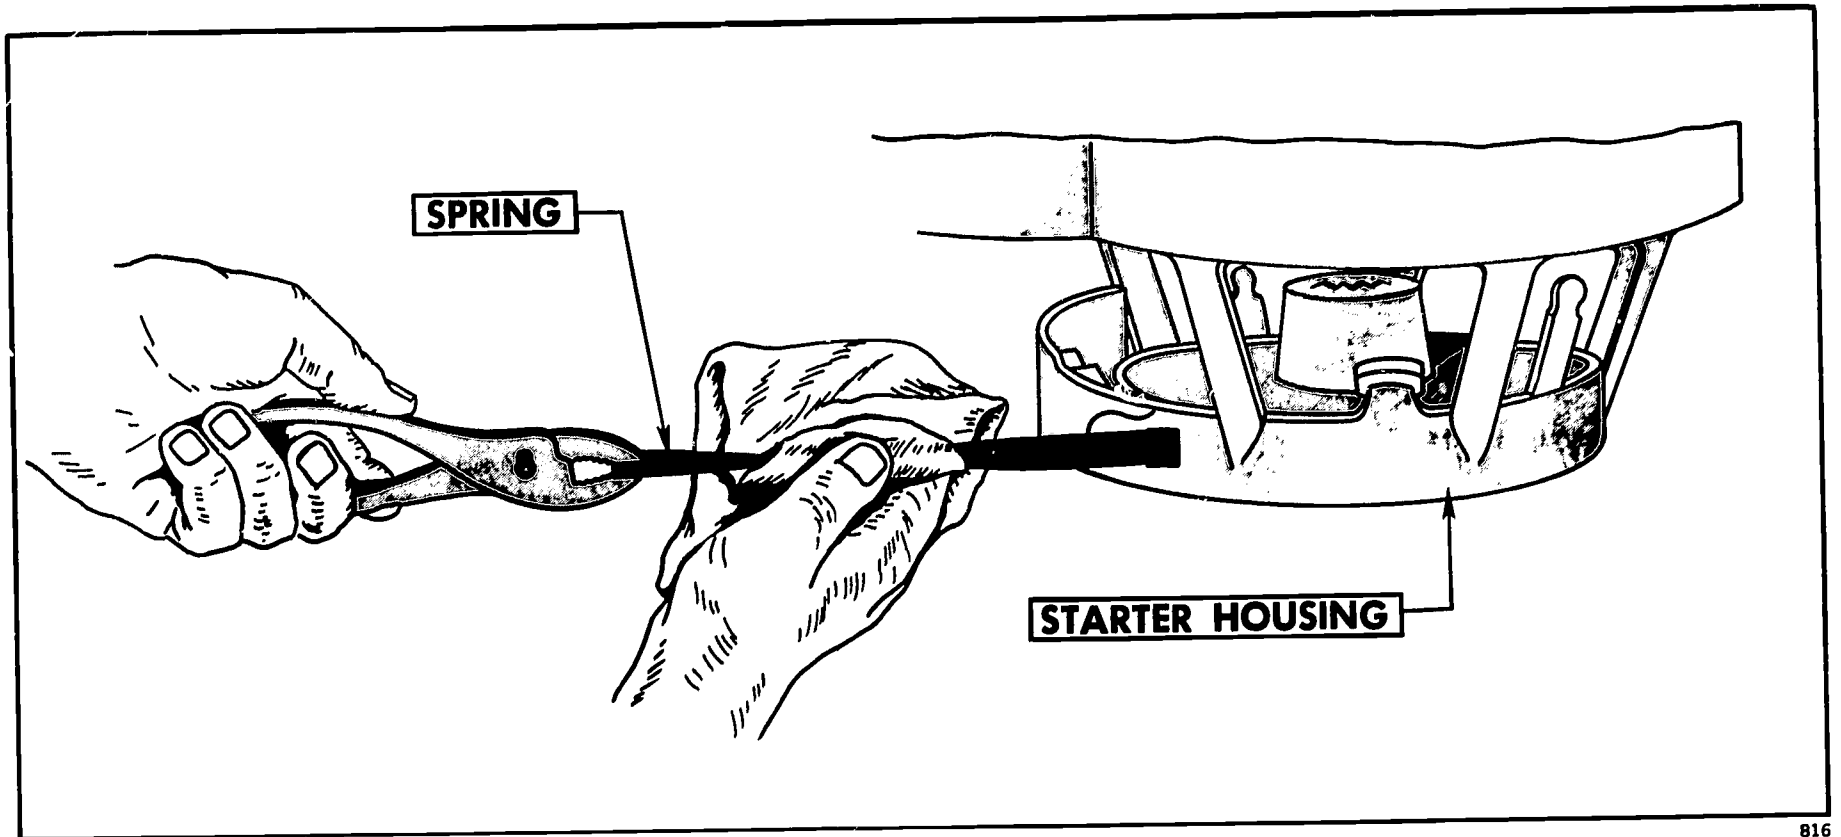

FIGURE 34. The recoil spring is unwound through the starter housing.
3. *Pull spring out as far as possible (Figure 34).*